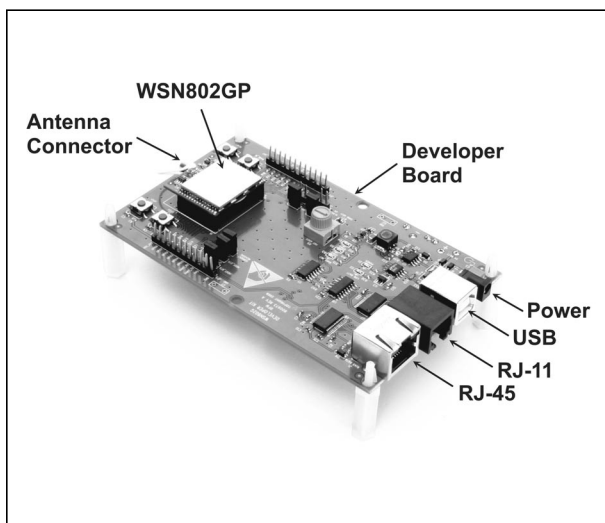

Figure 1
1. Observe ESD precautions when handling the WSN802GDK developer board. Install an AC plug on the 9 V developer board power supply. Plug the power supply cable into the developer board power connector. See Figure 1.
2. Referring to Figures 1 and 2, install the patch antenna on the developer board antenna connector. The antenna "snaps" onto the connector with moderate pressure. Plug the 9 V power supply in.